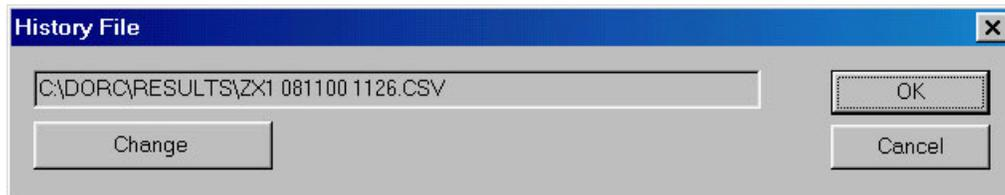

Figure 10.
- To choose a file name and location to store the measurement results, select **History File** from the **File** pull-down menu. A dialog box will be displayed showing the present History path and file name as shown in figure 10.